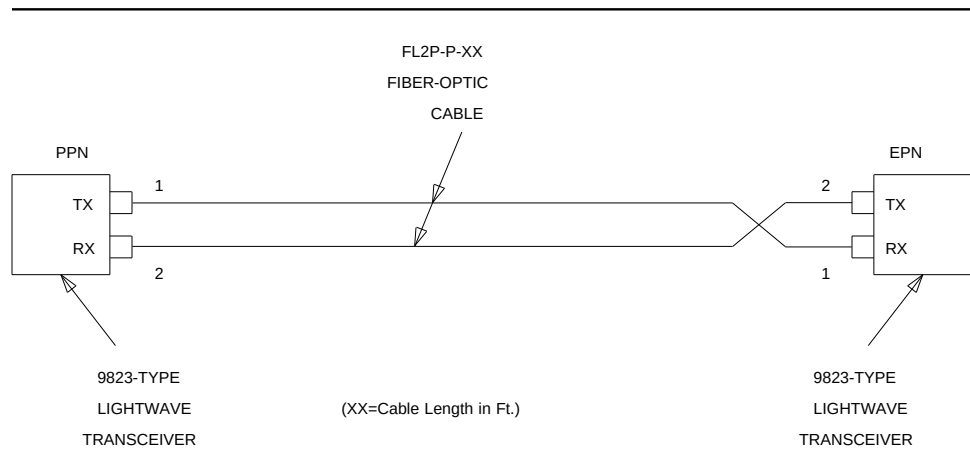

Figure 6-2. Local Fiber-Optic Cable Connections Between 9823-Type Transceivers
- b. Connect one of the connectors at the end of the fiber-optic cable required by the running list to each connector on the 9823-type lightwave transceivers just installed. The fiber connected to each connector is numbered 1 or 2. The connector on the 9823 is marked TX or RX. You must keep track of which fiber is connected to which 9823 connector. Figures 6-2 and 6-3 offer the suggested way to order these connections.
- b. Connect one end of a fiber-optic cable to each connector on the 9823-type lightwave transceivers just installed. The fiber connected to each connector is numbered 1 or 2. The connector on the 9823 is marked TX or RX. You must keep track of which fiber is connected to which 9823 connector. Figures 6-2 and 6-3 offer the suggested way to make these connections.
Connect the cable that comes from the transmit (TX) connector of the PPN transceiver to the receive (RX) connector of the EPN transceiver. (Use the labels attached when you connected to the PPN transceiver to identify the cables for connection.) Connect the remaining cable to the remaining connector. See Figures 6-2 and 6-3 for illustration of these connections.
- b. See Note. Connect one end of a fiber-optic cable to each connector on the 9823-type lightwave transceivers just installed. The fiber connected to each connector is numbered 1 or 2. The connector on the 9823 is marked TX or RX. You must keep track of which fiber is connected to which 9823 connector. Figures 6-2 and 6-3 offer the suggested way to make these connections.